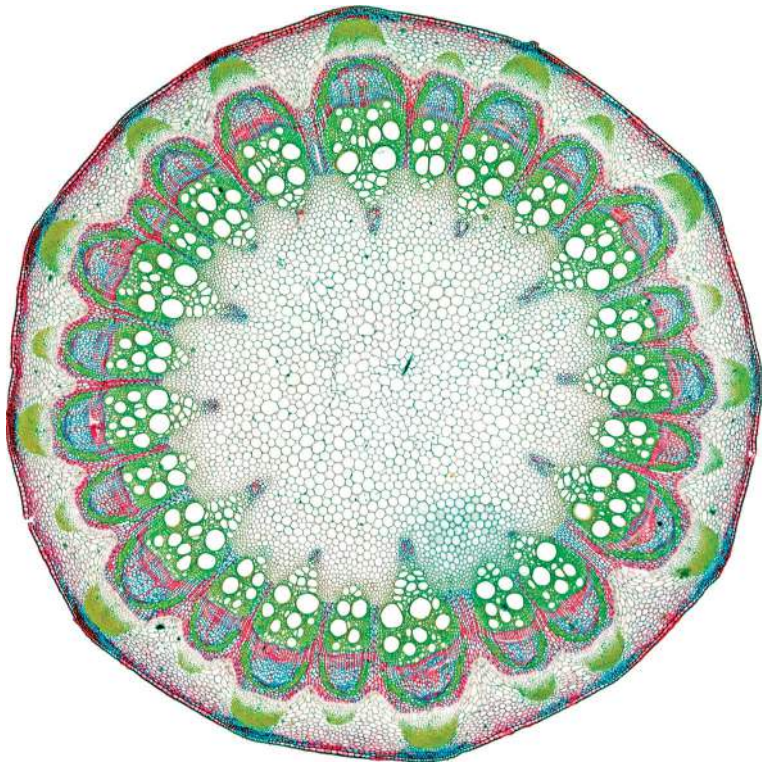
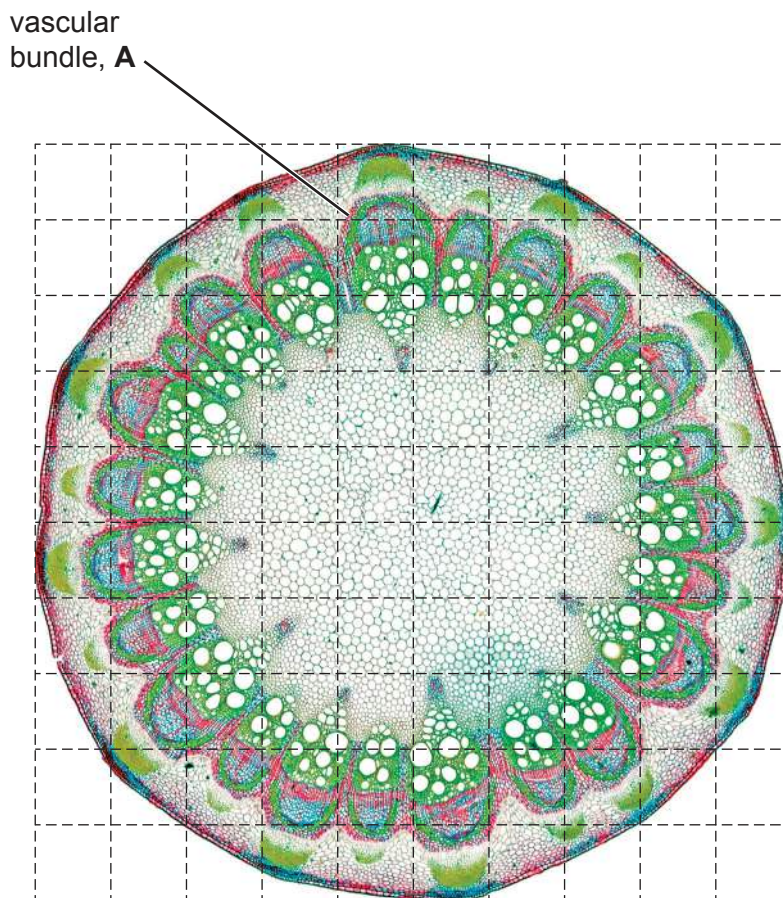

Fig. 2.1
Fig. 2.2
(b) Fig. 2.1 is a photomicrograph of a stained transverse section through a plant organ of a different type of plant.
Identify the observable differences between the section on **L1** and the section in Fig. 2.1.
(c) Fig. 2.2 is a photomicrograph of the same section that is in Fig. 2.1.
You will need to use the grid to find the area of the vascular bundle labelled **A** and the total area of the plant organ section in Fig. 2.2.
- (ii) Use the grid to estimate the area of the vascular bundle labelled **A** and the total area of the plant organ section in Fig. 2.2.